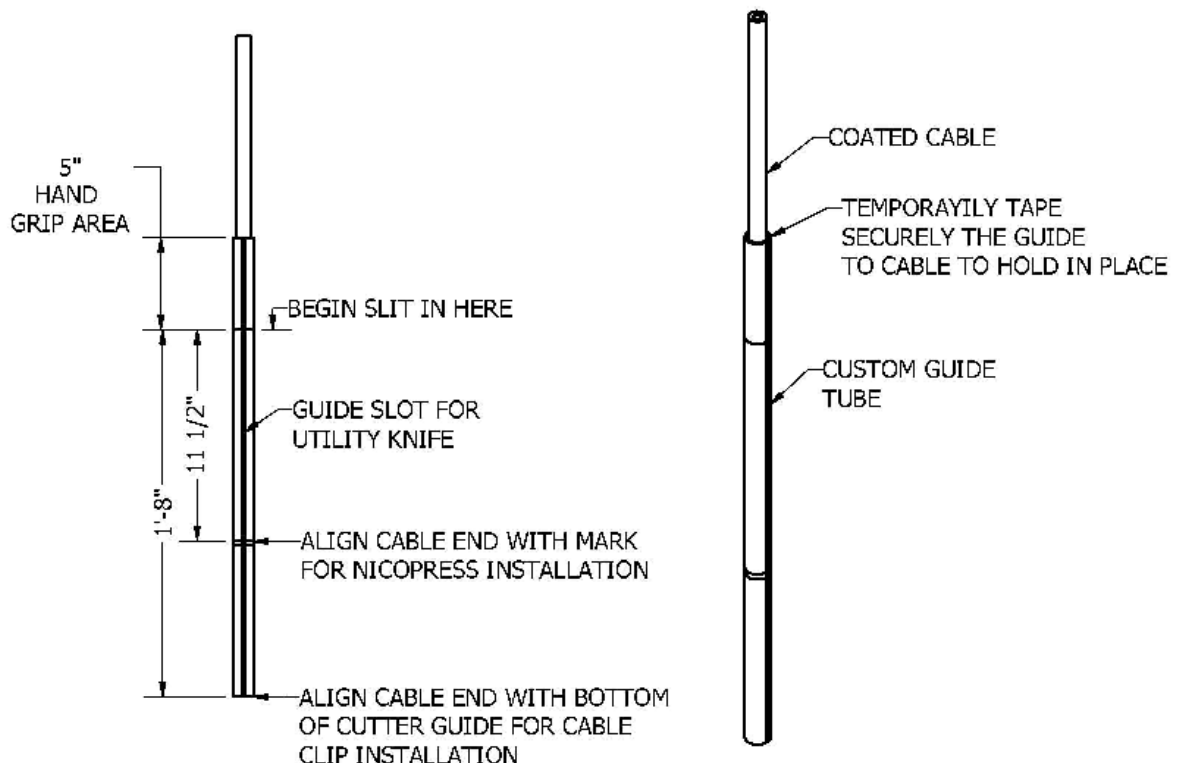
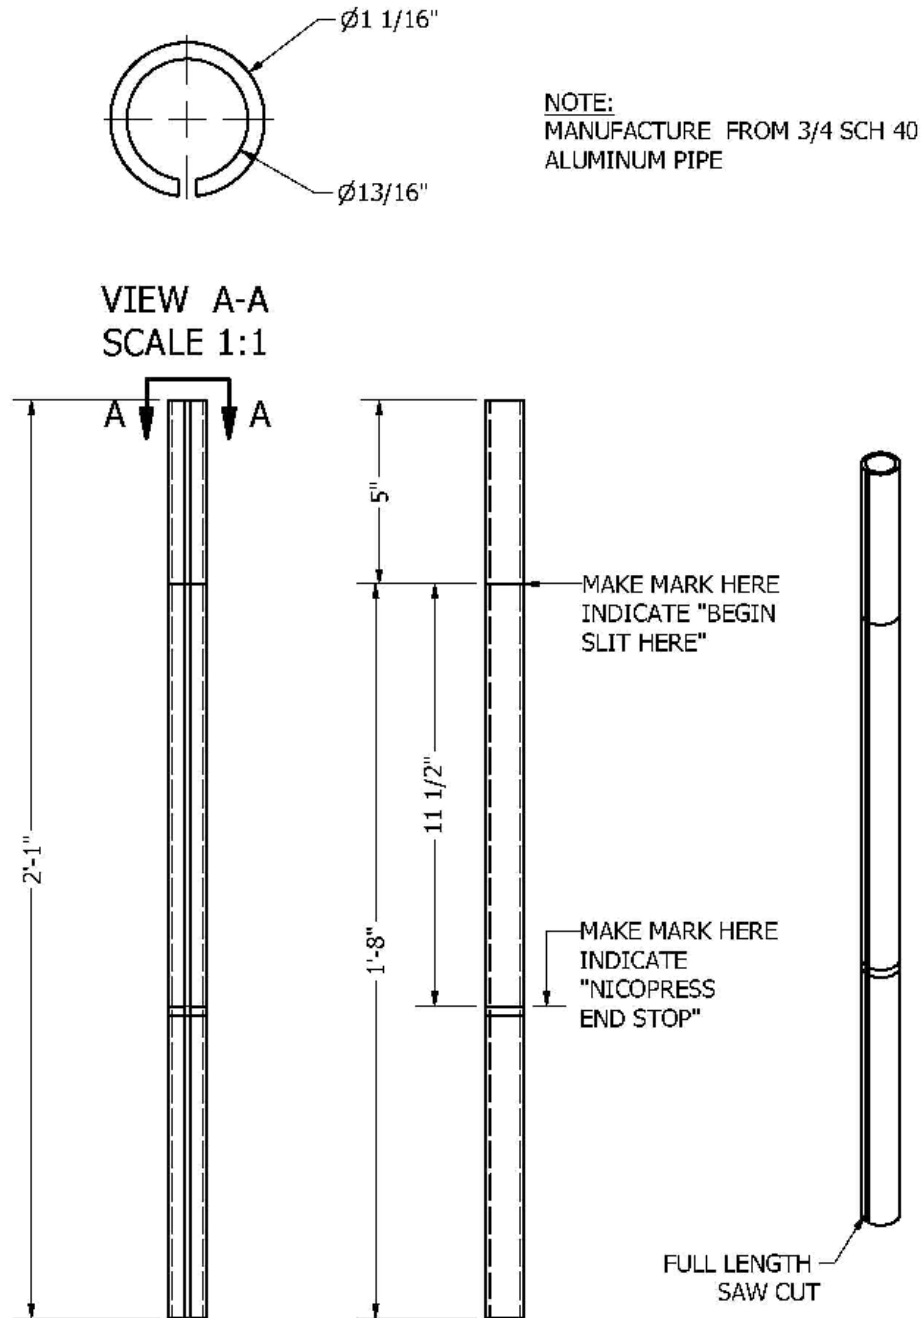

Figure B-1: Cutter guide installation
FIGURE B-2: CUTTER GUIDE
Step 3: Install cutter guide (See *Figure B-1*) aligning bottom of cable with bottom of guide for cable clip installation or with indicator mark for nicopress installation. You can use gaff tape or duct tape to hold the cutter guide in place while you make the slit in the coated cable. See figure B-2 for fabrication details on cutter guide.